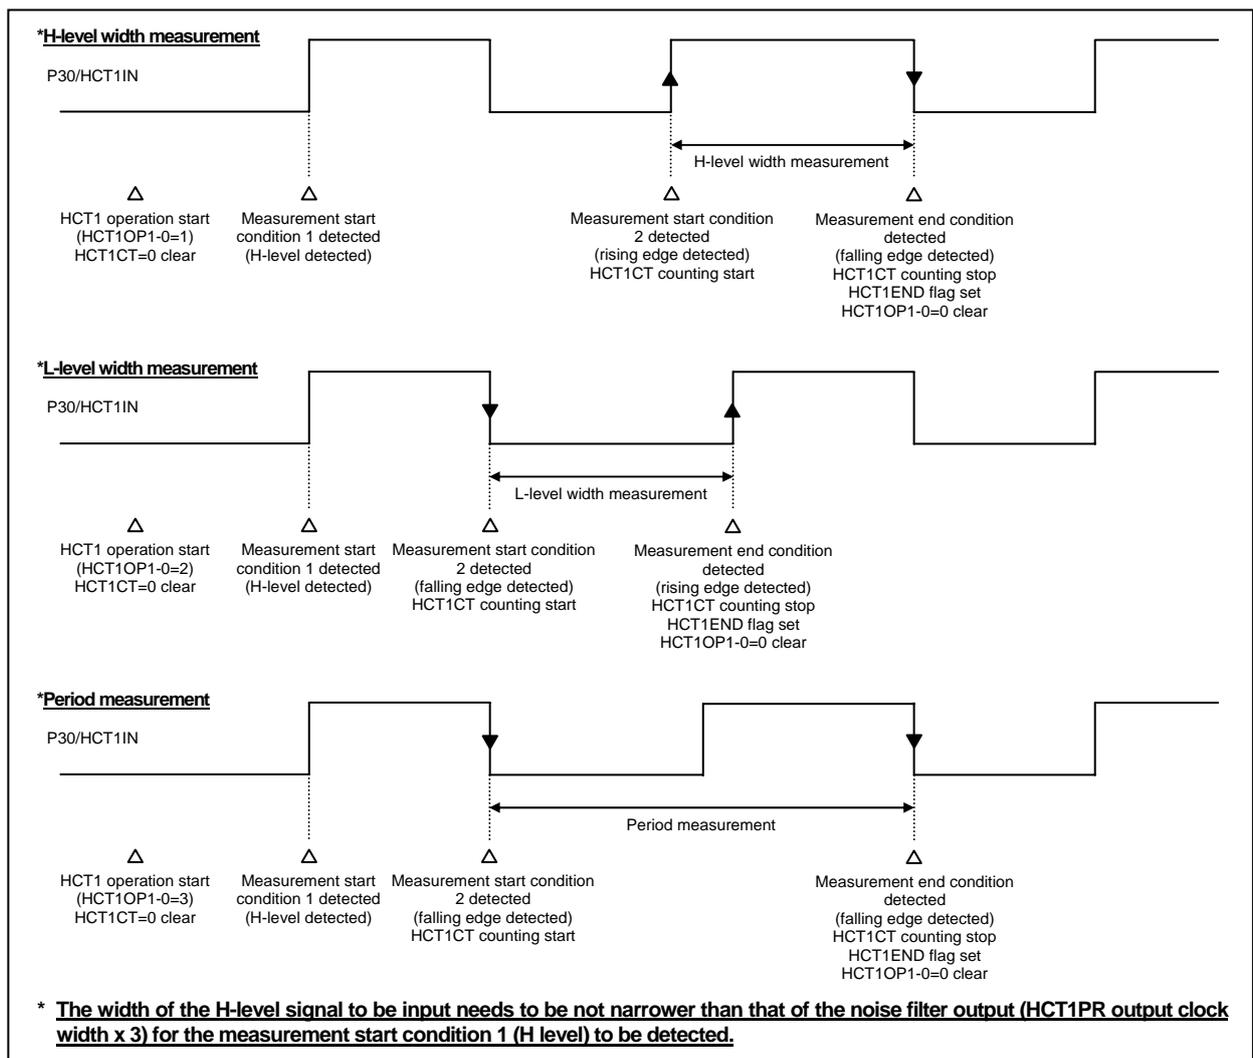

Figure 3.7.2 Sample High-speed Pulse Width/Period Measurement Counter 1 Waveforms
* See Figure 3.7.2 for details.
- * The measurement starts when the specified measurement start condition is detected after HCT1OP1 and HCT1OP0 are set to a nonzero value (see Figure 3.7.2 for details).
This bit is set to 1 when the end of HCT1 measurement condition is detected (see Figure 3.7.2 for details).